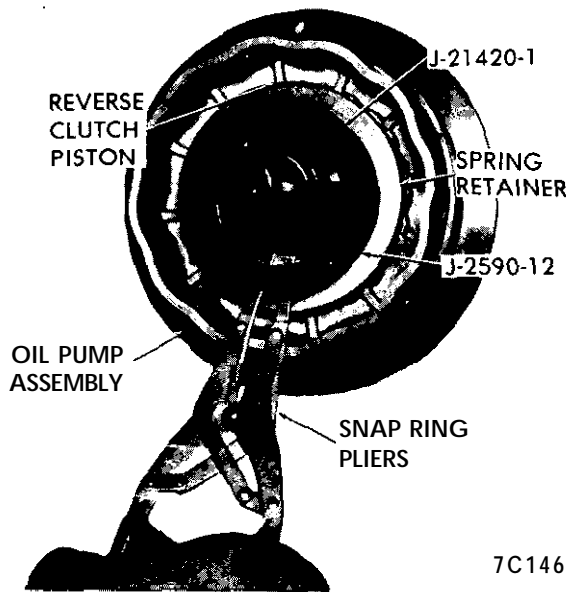

Figure 7C-155
36. Install snap ring using snap ring pliers such as J-8059. See Figure 7C-155. Do not air check reverse clutch as the clutch is not complete and damage to the return spring retaining seat may occur.